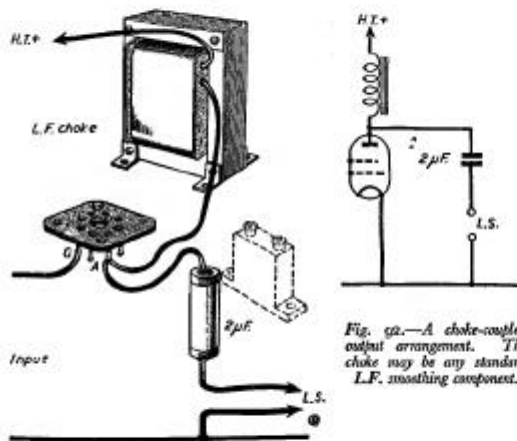

Fig. 92.—A choke-coupled output arrangement. The choke may be any standard L.F. smoothing component.
**The Output Filter.**—There are two reasons why an output filter is fitted to a set; first that the filter properly arranged will help to match the impedance of the speaker with that of the output valve and, secondly, the filter isolates the speaker from the anode current flowing in the output valve. Only the low-frequency signal current passes through the loudspeaker, and this is important in mains sets. It not only eliminates all chance of shock if the L.S. terminals are accidentally touched, but in some cases it will minimize hum. Fig. 92 shows a typical output filter arrangement.
Fig. 92 shows the choke method which has the advantage of low cost since the only components required are the output choke and a fixed condenser. The output choke generally should have an inductance of about 20 henries, and the condenser should be of 2 or 4  $\mu\text{F}$  capacity. The advantage of this scheme is that when long extension leads are used it is